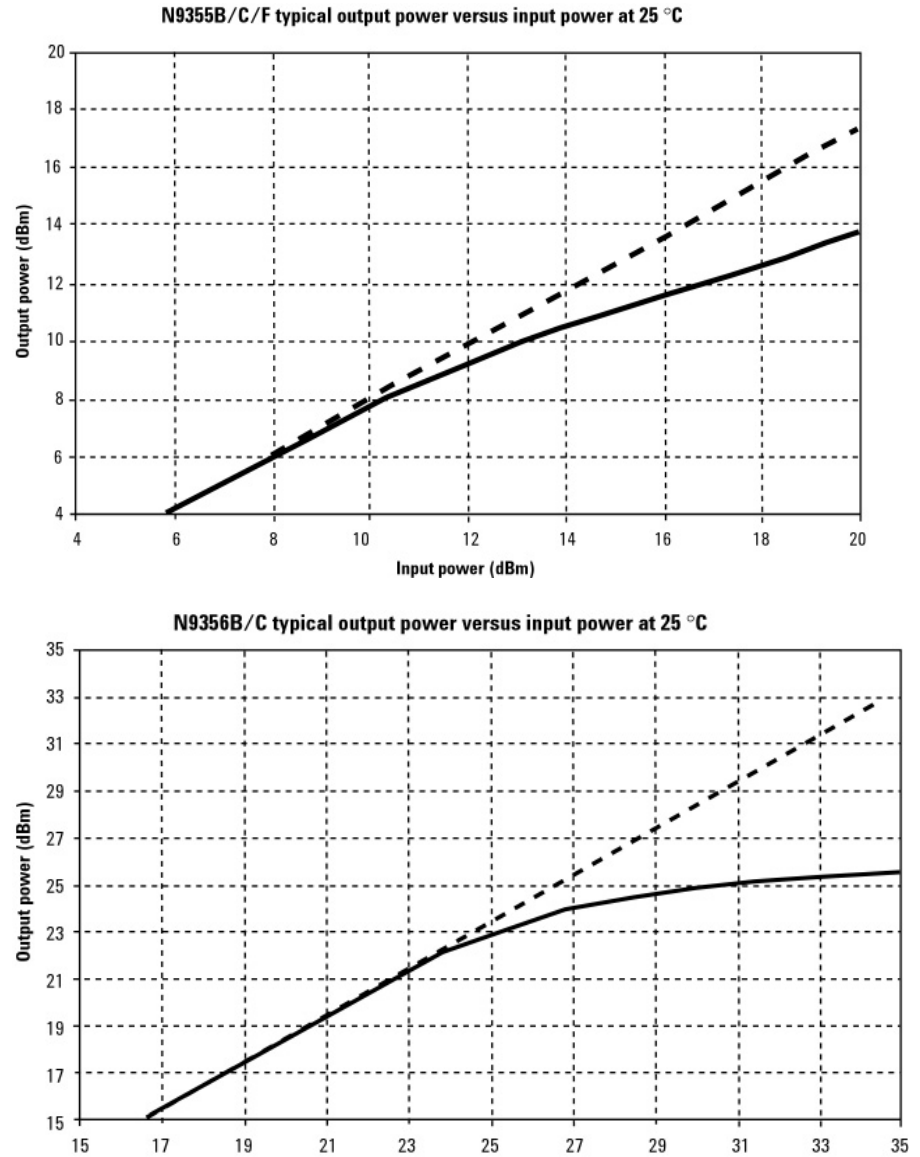

Figure 4 Typical Output Power Versus Input Power
Power limiting is non-linear and depends on the input power and the ambient temperature. The typical measurements shown on Figure 4 are measured at ambient temperature of 25°C.
- 2 Compare your results with the graphs in Figure 4.